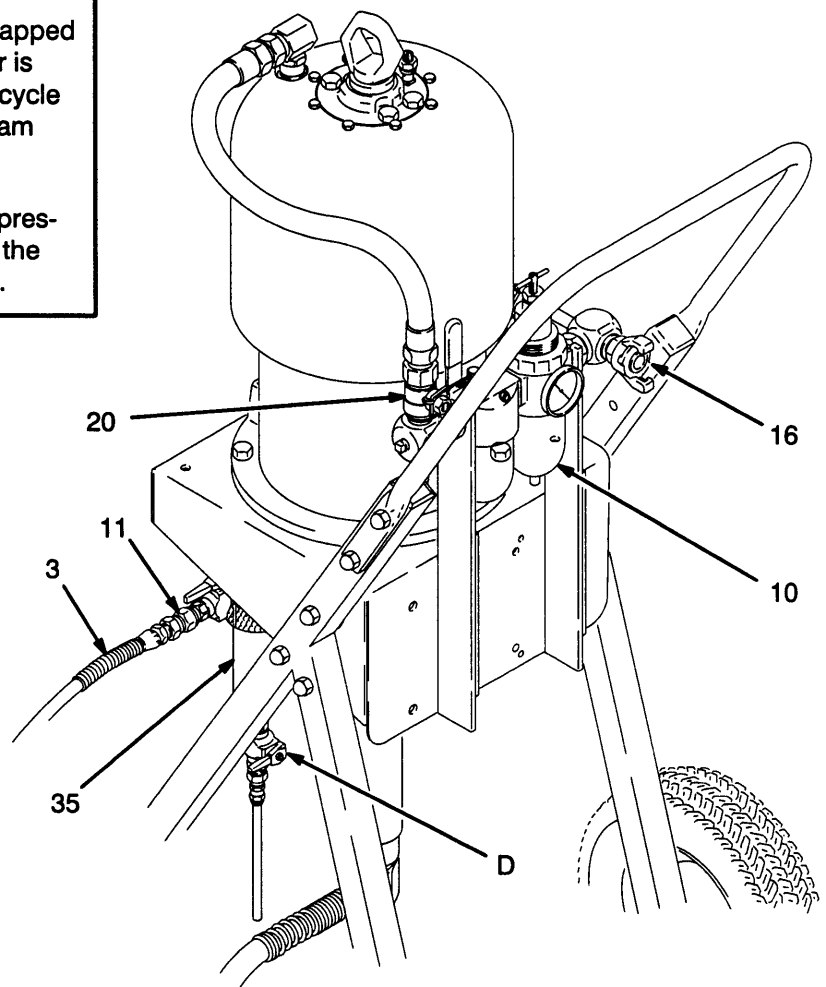

Fig. 2
The air filter/regulator/lubricator (10) removes harmful dirt and moisture from the compressed air supply, controls pump speed and outlet pressure by adjusting the air pressure to the pump, and provides automatic lubrication of the air motor. See Fig. 2.